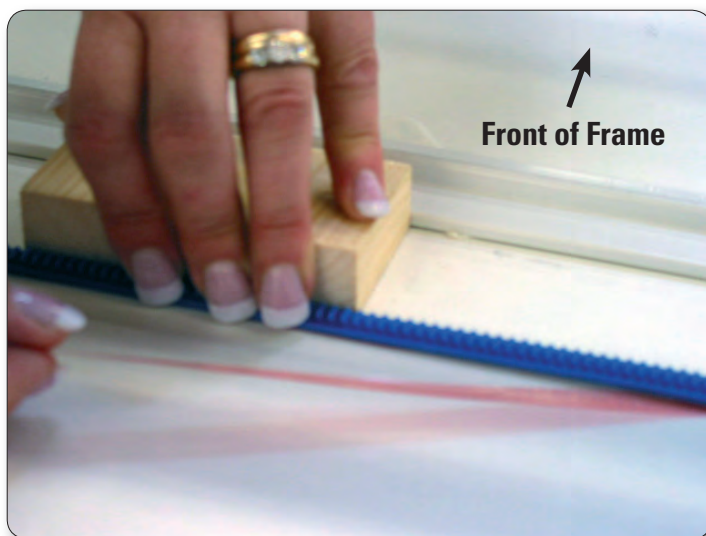

Figure 3
3. Starting at one end of the table, begin mounting the blue rack to the table. Peel back just a few inches of the protective layer of the tape. Position the blue rack using the wooden alignment block (M) as a guide. The wood block should be laid flat on the table top, butted against the inside edge of the front white track (Figure 3). The blue rack then butts against the opposite side of the block so the blue rack is mounted 2" away from the front white track.